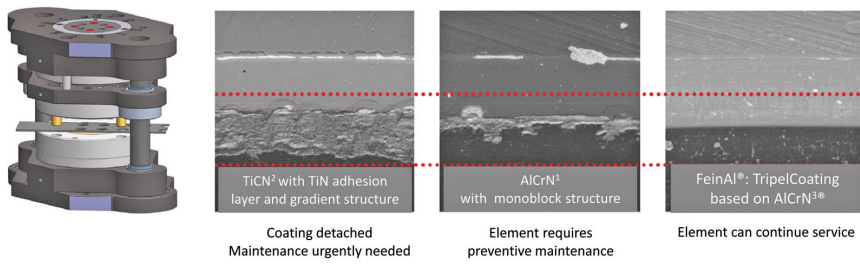

Figure 6: Fine Blanking with Coatings of the 1st, 2nd and 3rd Generation - Comparative Analysis (SEM) after 30'000 Strokes.
- **Figure 6** compares the wear characteristics of fine blanking tools coated with 1st, 2nd and 3rd generation coatings. The special core of the TripleCoating^{3®}, AlCrN^{3®}, is the basis for the good performance of the dedicated coating FeinAl[®].